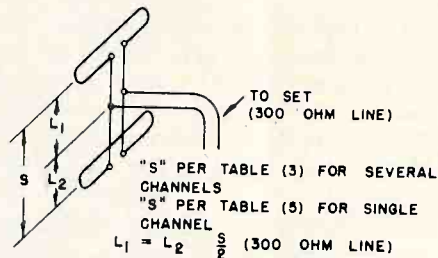

Fig. 4. Single Stacking 300 Ohm Antennas.
**Matching Single Stacked (2 Bays) In-Line or Conical Antennas.** Equal lengths of 300 ohm line from each antenna should be joined, as in Fig. 4. This will result in an impedance of 150 ohms at the junction, and a 2 to 1 mismatch (150-300) results if the lead-in is connected to this junction. However, as a practical matter, it may be advisable to allow such a mismatch, rather than attempt impedance matching measures, as use of some transformers may result in an attenuation greater than that resulting from a 2 to 1 mismatch.
**Matching Stacked, Single Channel, Antennas of 300 Ohm Impedance.** In this case, single or double stacking can be quite beneficial, using the optimum spacing specified in Table 5. In either case equal lengths of 300 ohm lead are to be run from each antenna to a junction point, as shown in Fig. 4 or 5. For a single stack the 300 ohm lead-in should connect directly to this junction.
*Matching Single Stacked (2 Bays) In-Line or Conical Antennas.* Equal lengths of 300 ohm line from each antenna should be joined, as in Fig. 4. This will result in an impedance of 150 ohms at the junction, and a 2 to 1 mismatch (150-300) results if the lead-in is connected to this junction. However, as a practical matter, it may be advisable to allow such a mismatch, rather than attempt impedance matching measures, as use of some transformers may result in an attenuation greater than that resulting from a 2 to 1 mismatch.